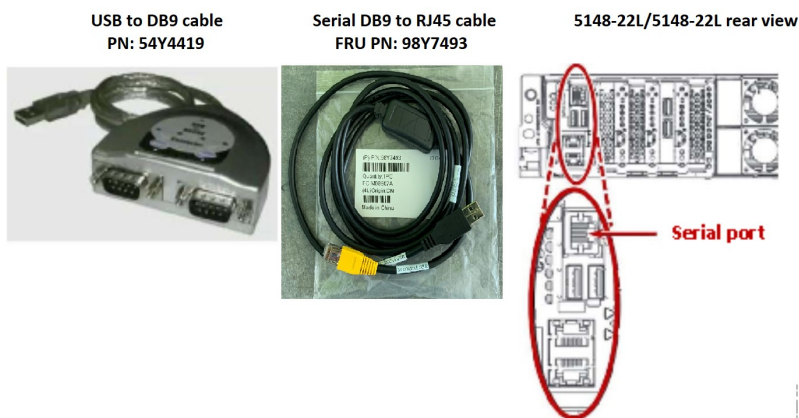

Figure 20. Connecting a laptop to the serial port in the EMS node
- The USB to RJ45 console cable shown in the Figure 20 on page 41 works for Linux and Windows laptops.